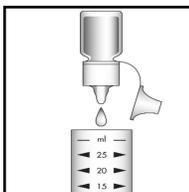

Figure 2
2. Add 10 drops of A-6500 Activator Solution (fig. 2). Cap the cup and shake it to mix the contents well.